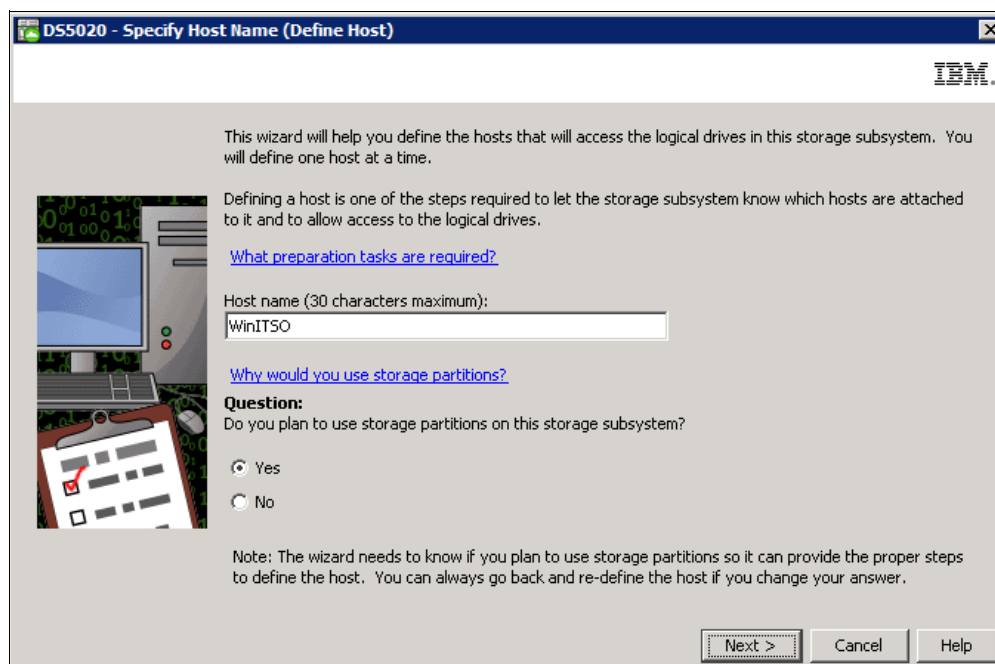

Figure 4-69 Define Host wizard
2. The first window of the wizard is an introduction (Figure 4-69). You are asked to assign a name to the host being defined, and whether you plan to use storage partitioning.